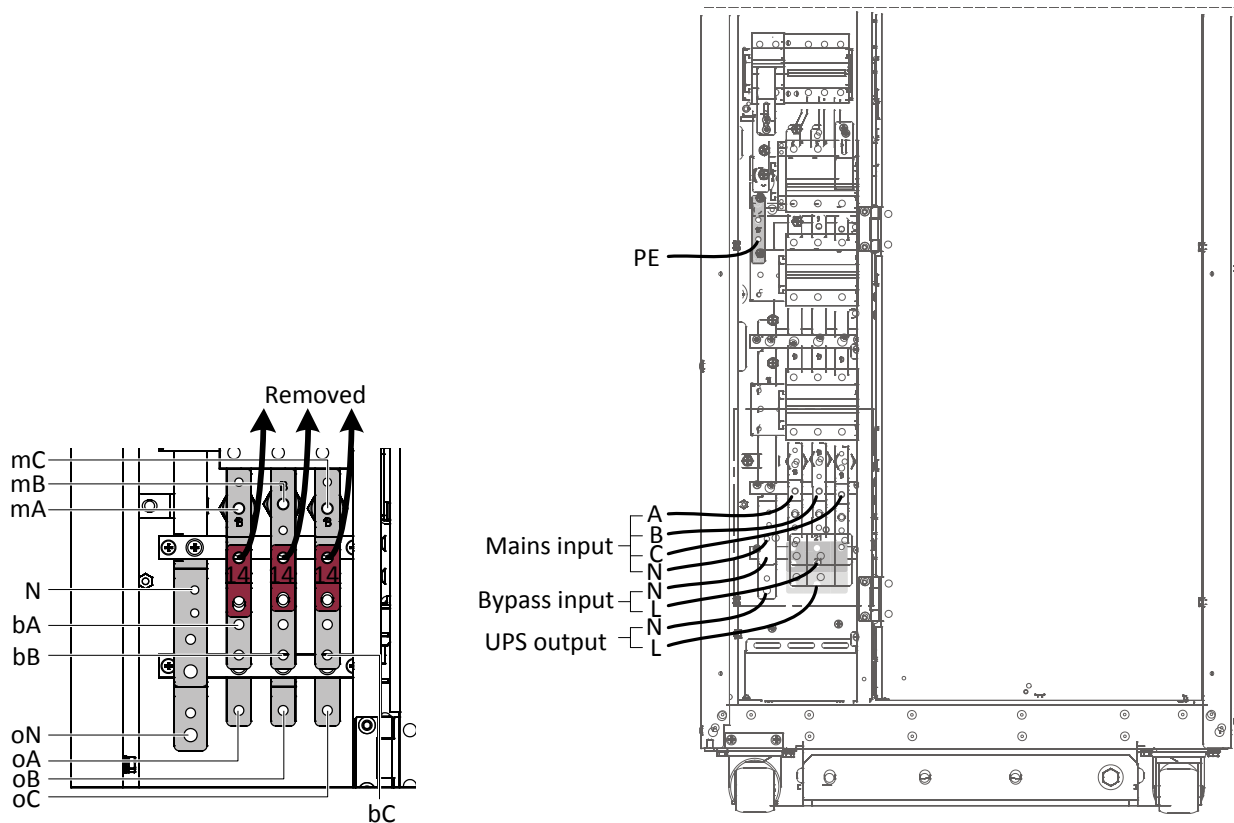

Figure 8-36 3-in 1-out, split bypass configuration cable connection
(1) Remove the three shorting copper bars (number 14) from the rectifier input terminals mA, mB and mC, see left diagram in Figure 8-36. Use 3-in 1-out copper bars (number 21) to connect the bypass input terminals (bA-bB-bC), and then connect the output terminals (oA-oB-oC), see right diagram in Figure 8-36.
(2) Connect the rectifier input cables to rectifier input terminals (mA-mB-mC) in the cabinet, and connect the bypass input cables to the bypass shorting copper bars. Then connect the input neutral line to neutral terminal 'N' in the cabinet. Ensure correct phase rotation.